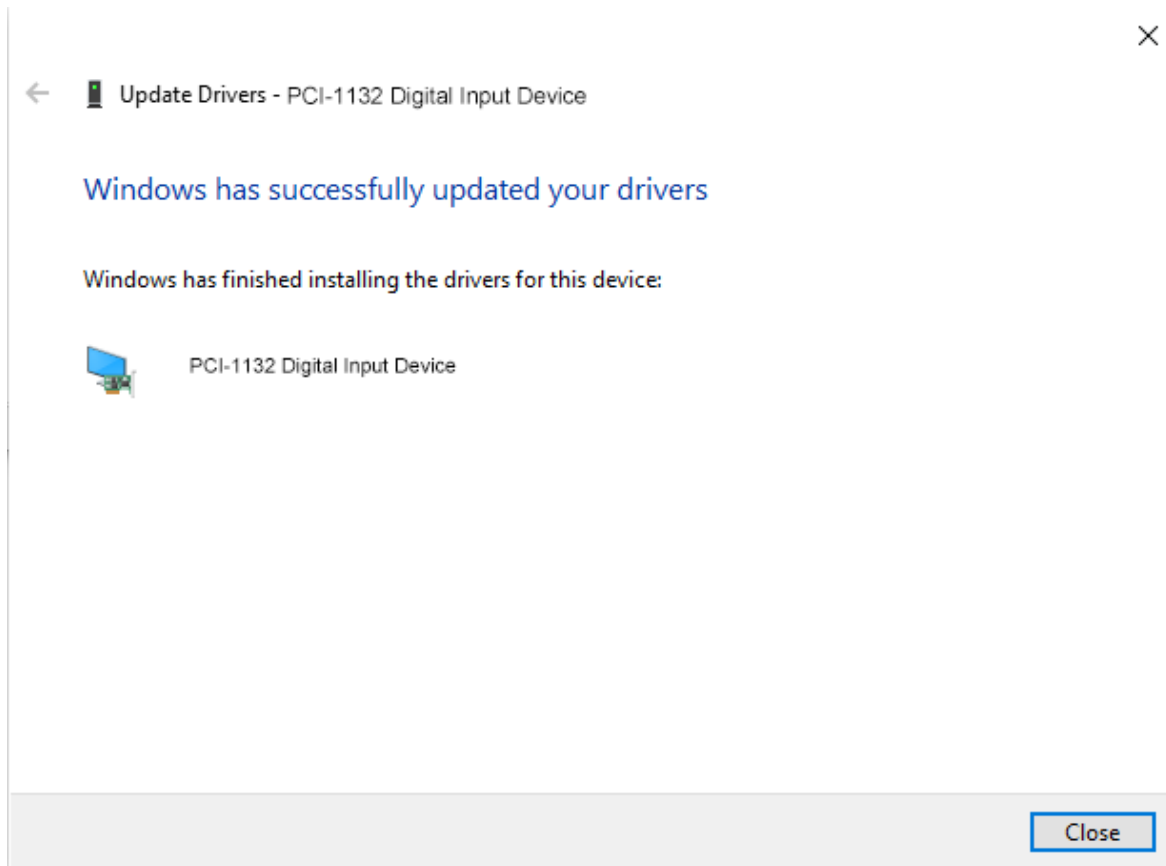

Figure 2.7 Driver installation is complete.
- 4) The computer starts to enter the driver installation process. After the installation is successful, the dialog box shown in Figure 2.7 below pops up, and the driver installation is completed.